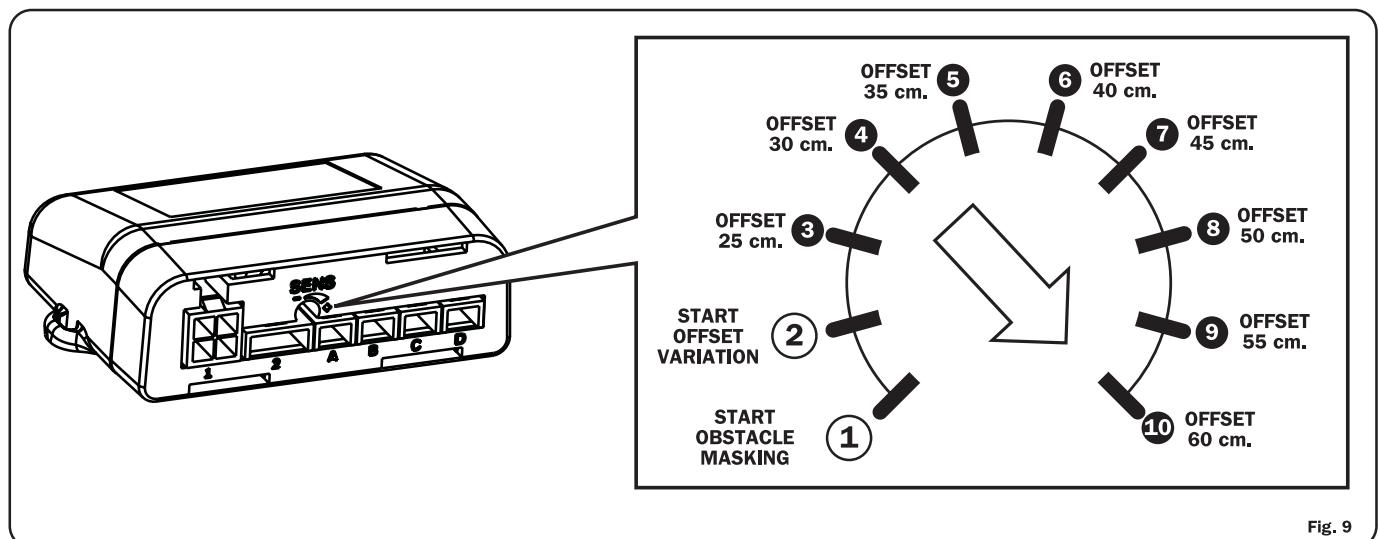

Fig. 9
NOTE: before to start the procedure, choose the offset value to be set; See in Fig.9 the corresponding trimmer position
- 1 - Unplug the main connector (1) from the EasyPark control unit, turn on the ignition and engage the reverse gear.
- 2 - Set the trimmer on position 2 (see figure 9).
- 2 - Set the control unit for masking, by setting the trimmer on the step 1(see fig. 9).